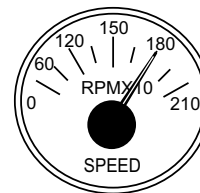

Figure 44. Engine Tachometer Gauge
9. The **tachometer gauge** (Figure 44) will indicate the speed of the engine when the generator is operating. Under normal operating conditions this speed is approximately 1800 RPM's.